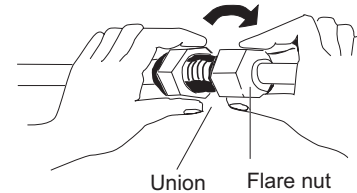

Fig. 2-19
- (3) For proper connection, align the union tube and flare tube straight with each other, then screw in the flare nut lightly at first to obtain a smooth match.(Fig.2-19)